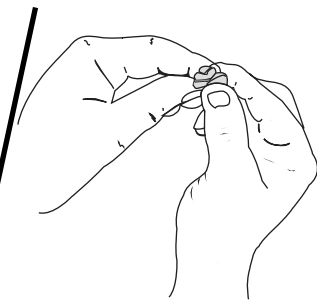

Fig. 18
5. Squeeze the filter to spread and remove excess oil (Fig. 18).